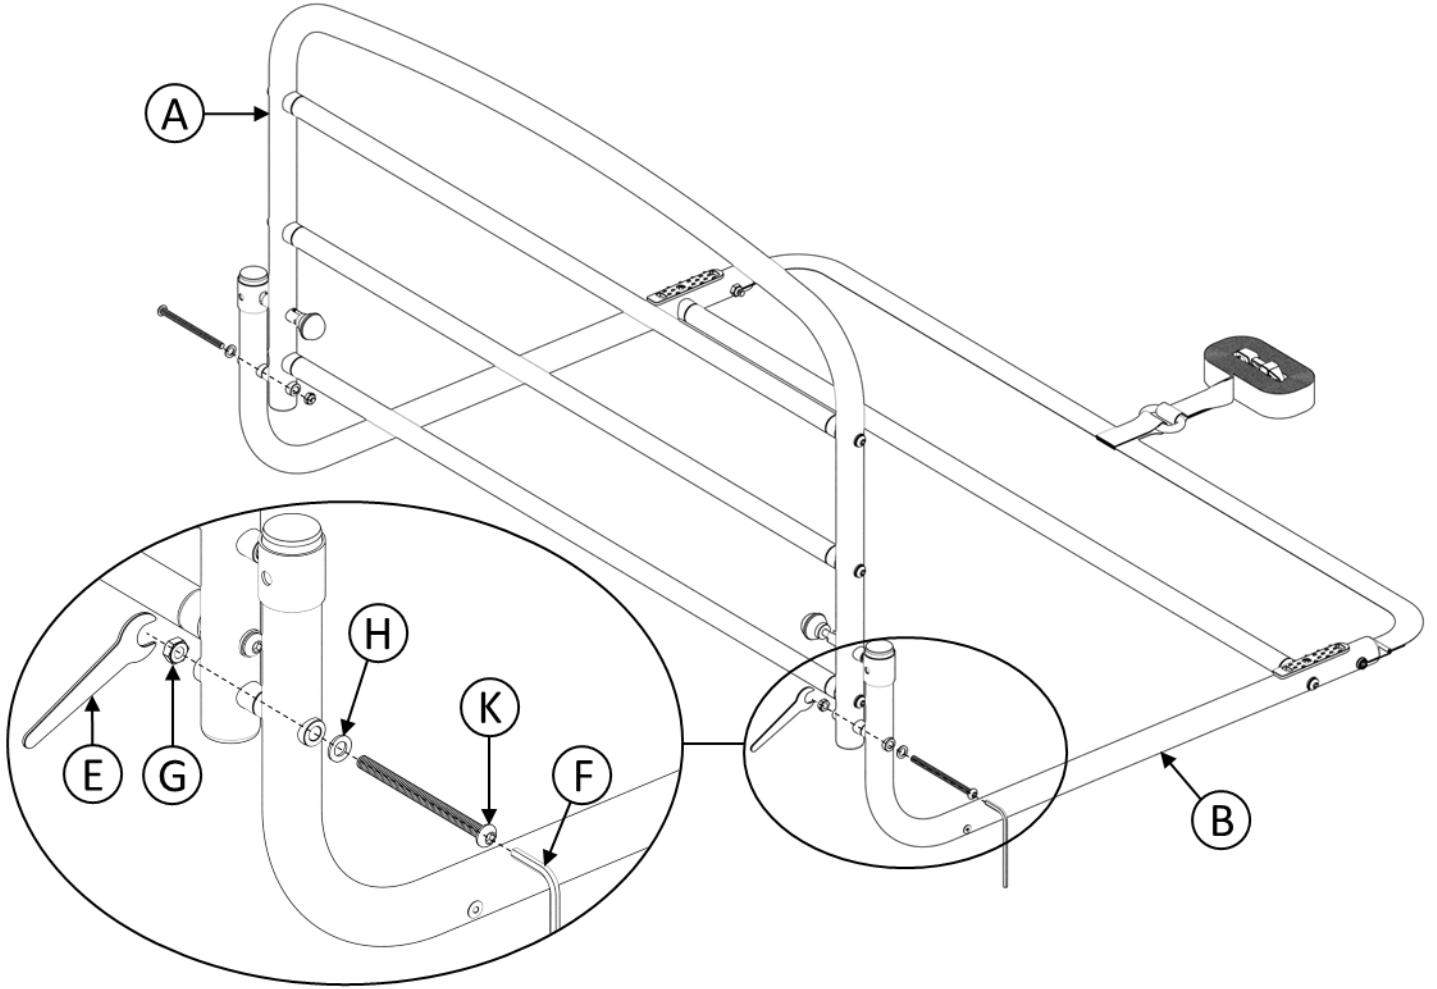

FIGURE 3
3. Place **A** between **B** and align holes as shown in *FIGURE 3*. Secure both ends with **G**, **H** and **K** using the tools provided (**E** and **F**).